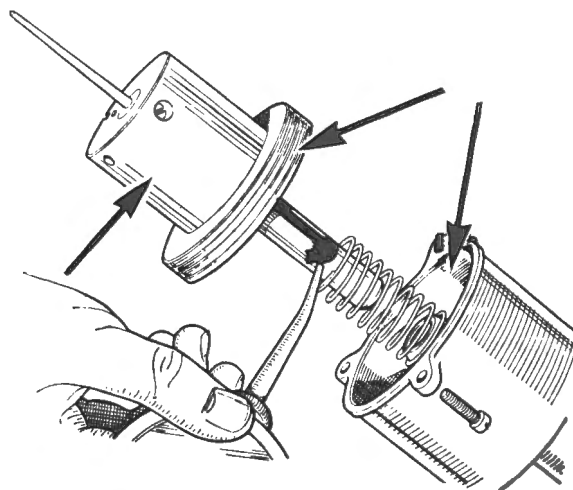

Fig. F-23
- 6 Using SAE 20 engine oil, lightly oil the piston rod only (Fig. F-23) and assemble piston and spring into suction chamber.